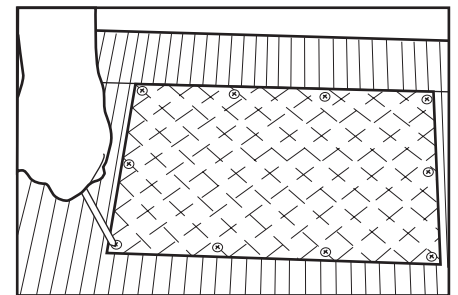

Fig. 1
1. Remove rectangular access plate in floor near stepwell (Fig.1).